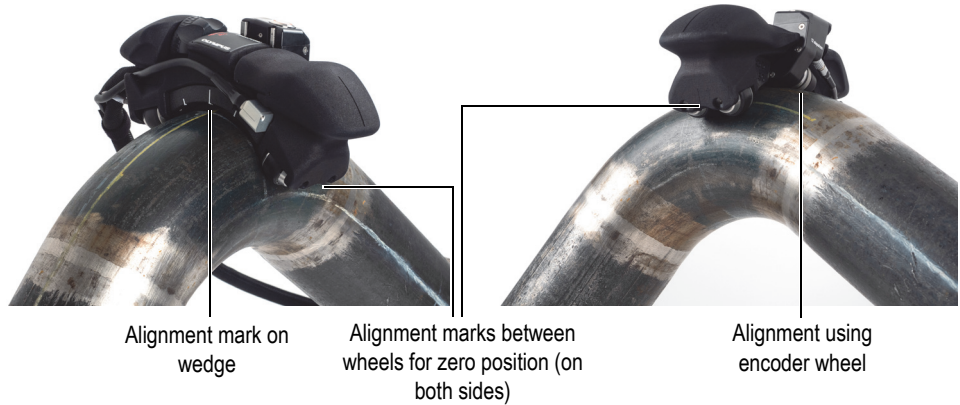

Figure 4-2 Alignment marks
1. Position the FlexoFORM scanner so that it is aligned with the (first) marked scan line and the start (zero) position (see Figure 4-2 on page 39).